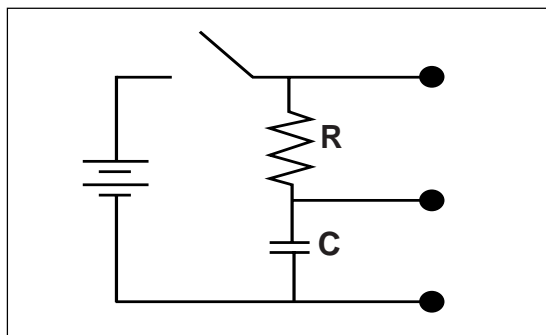

Figure 2
- ① Set up the circuit in Figure 2. At time $t = 0$, the switch is closed and capacitor voltage is recorded at regular time intervals. (A simple way to collect data is to open the switch at regular intervals and record the steady state reading. Why is this possible?)